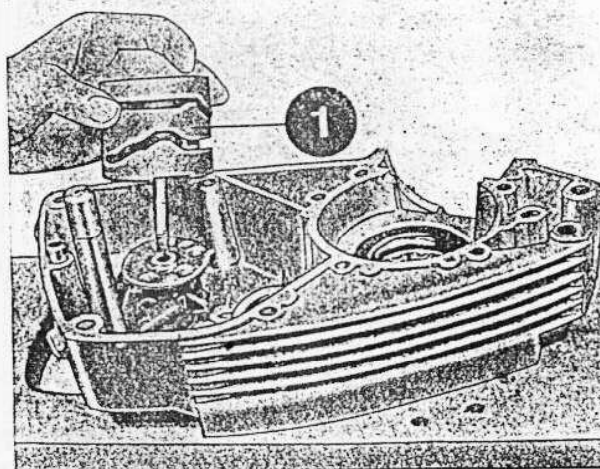

Fig. 24: Installing the ratchet wheel
- Install ratchet wheel (fig. 24/1) with catch spring and catch — grease the latter somewhat — and insert the axle for ratchet wheel through the gearshifting unit into the crankcase.